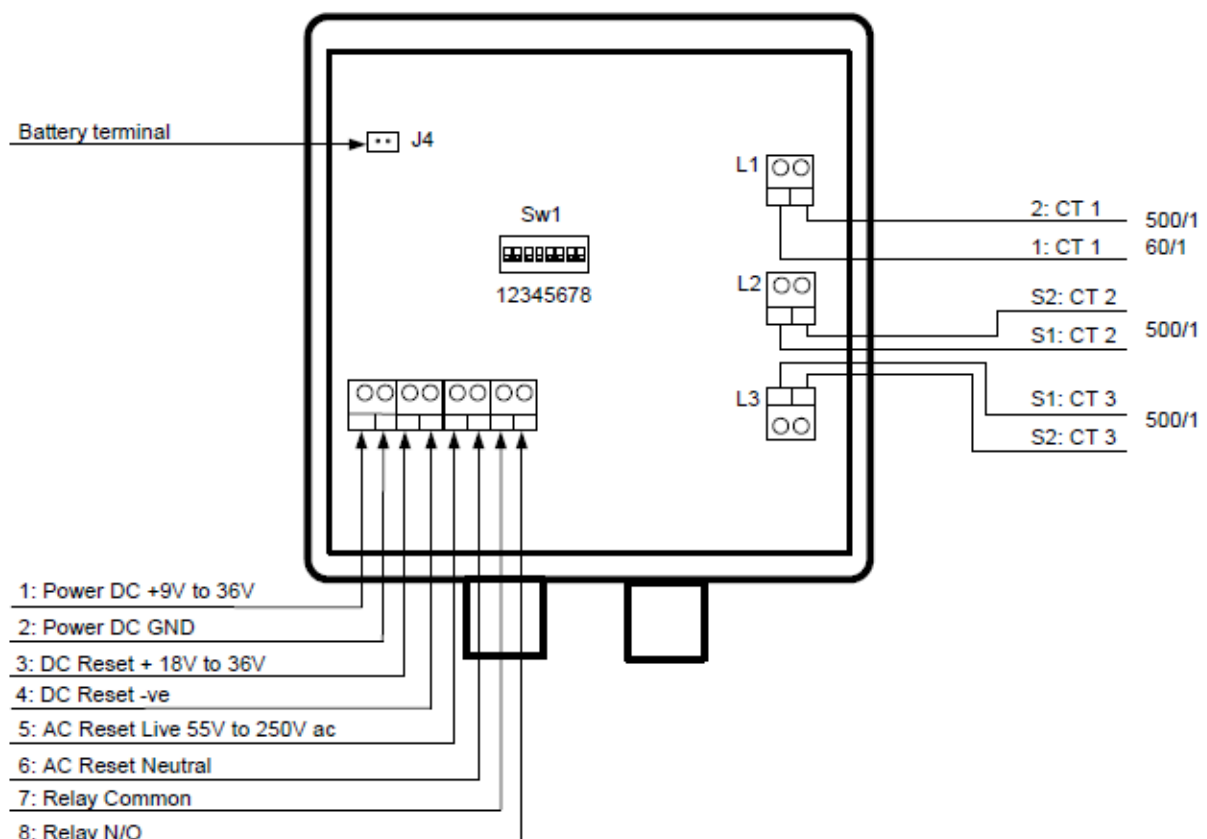

Figure 3.4.4- Connections and location of dipswitches for configuration
- 2.6.10. AC electrical reset can be taken from a metering VT or from a direct 230V supply from the substation. It shall be connected to junction 5(live) and junction 6(neutral) of the connection block highlighted in figure 3.4.4. The AC supply must be taken from the same associated circuit as the FPI. **Note the 230v AC source is for an AC reset signal only; the FPI cannot be powered by an AC supply.**